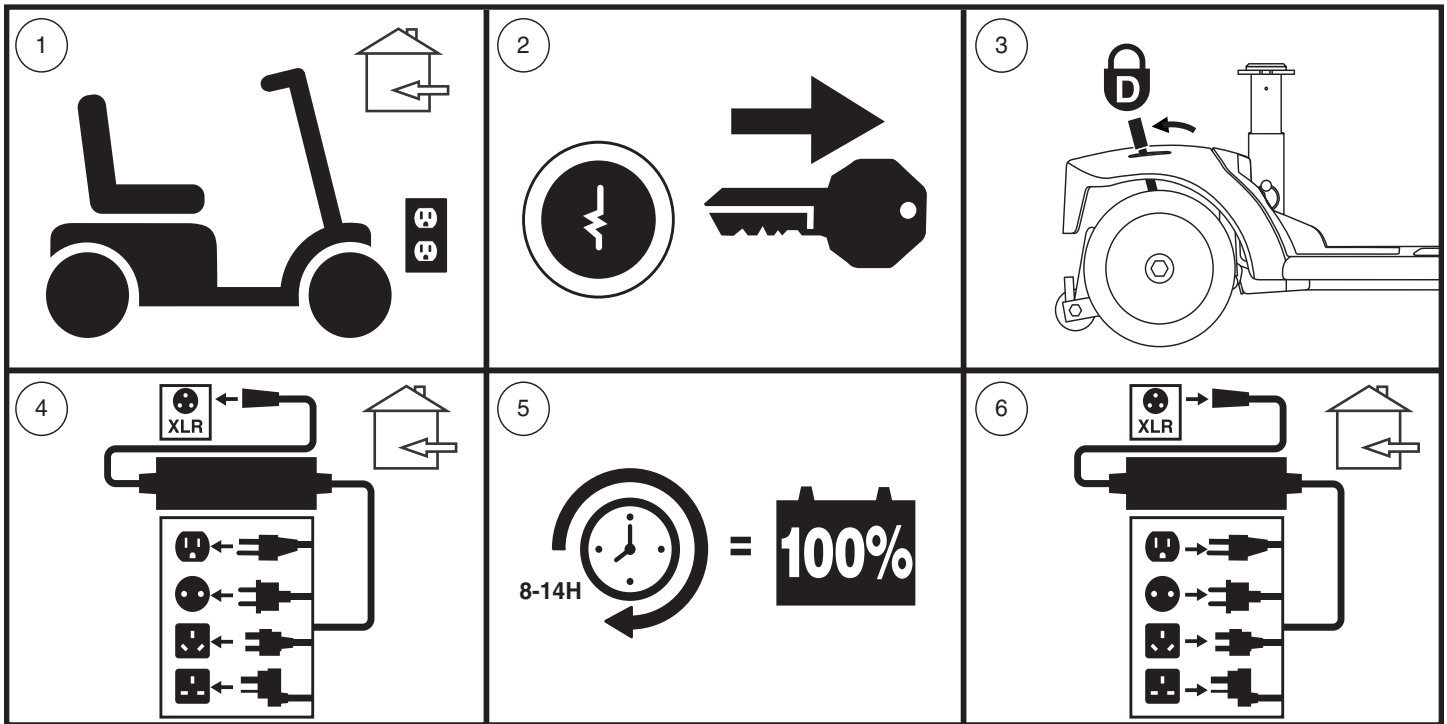

Figure 19. Battery Charging Procedures Diagram
*Follow the 6 easy steps in figure 19 to charge your batteries safely:*